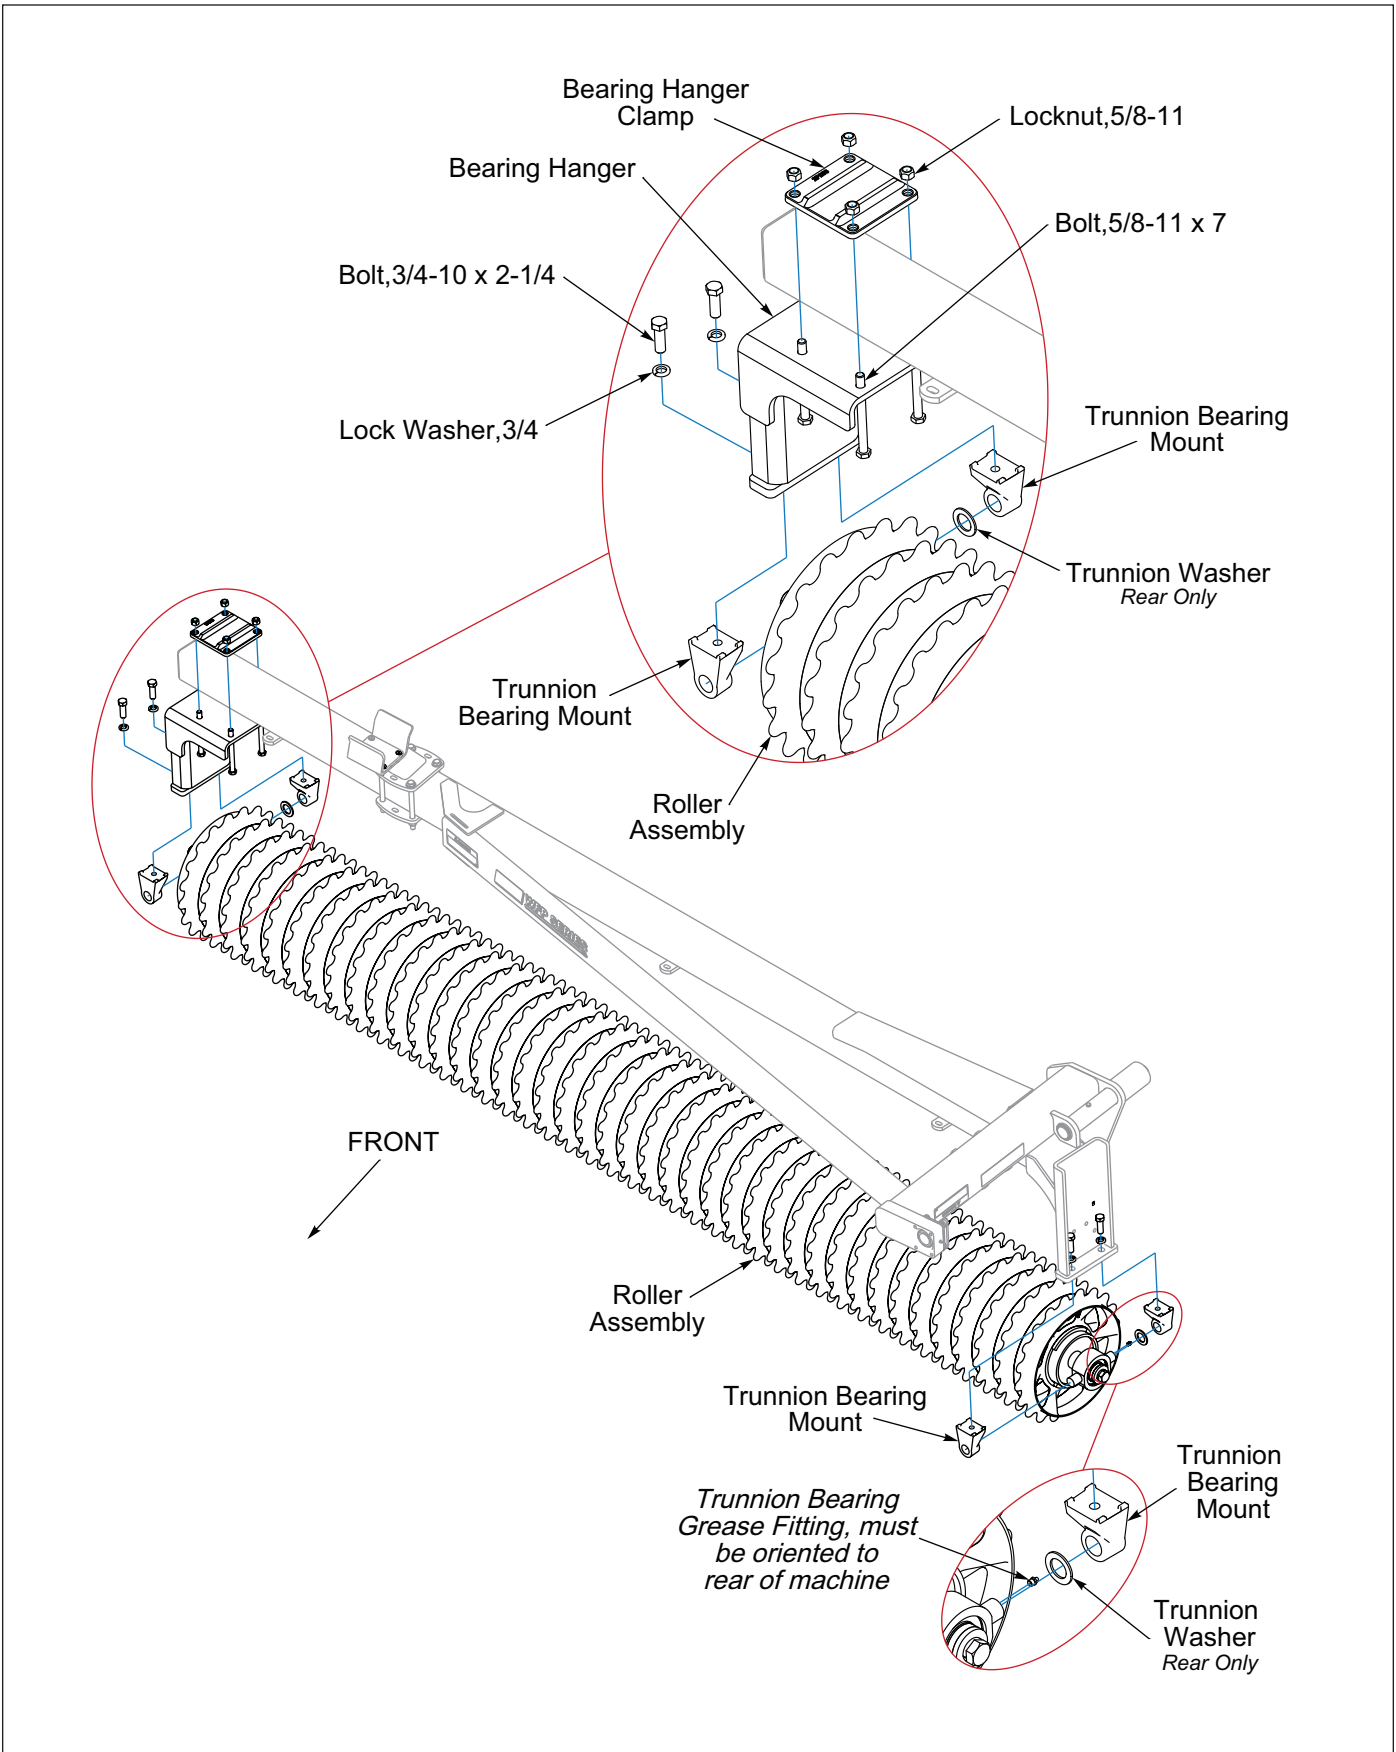

Figure 2-20: Wing Frame Roller Axle Installation, WFP38-46
2. Place Bearing Hanger Clamp on the top of the Wing Frame Tube and assemble the bolt on Bearing Hanger on the end of the Wing Frame with 5/8-11 x 7 Bolts and Flange Locknuts. Do not tighten. See Figure 2-20.